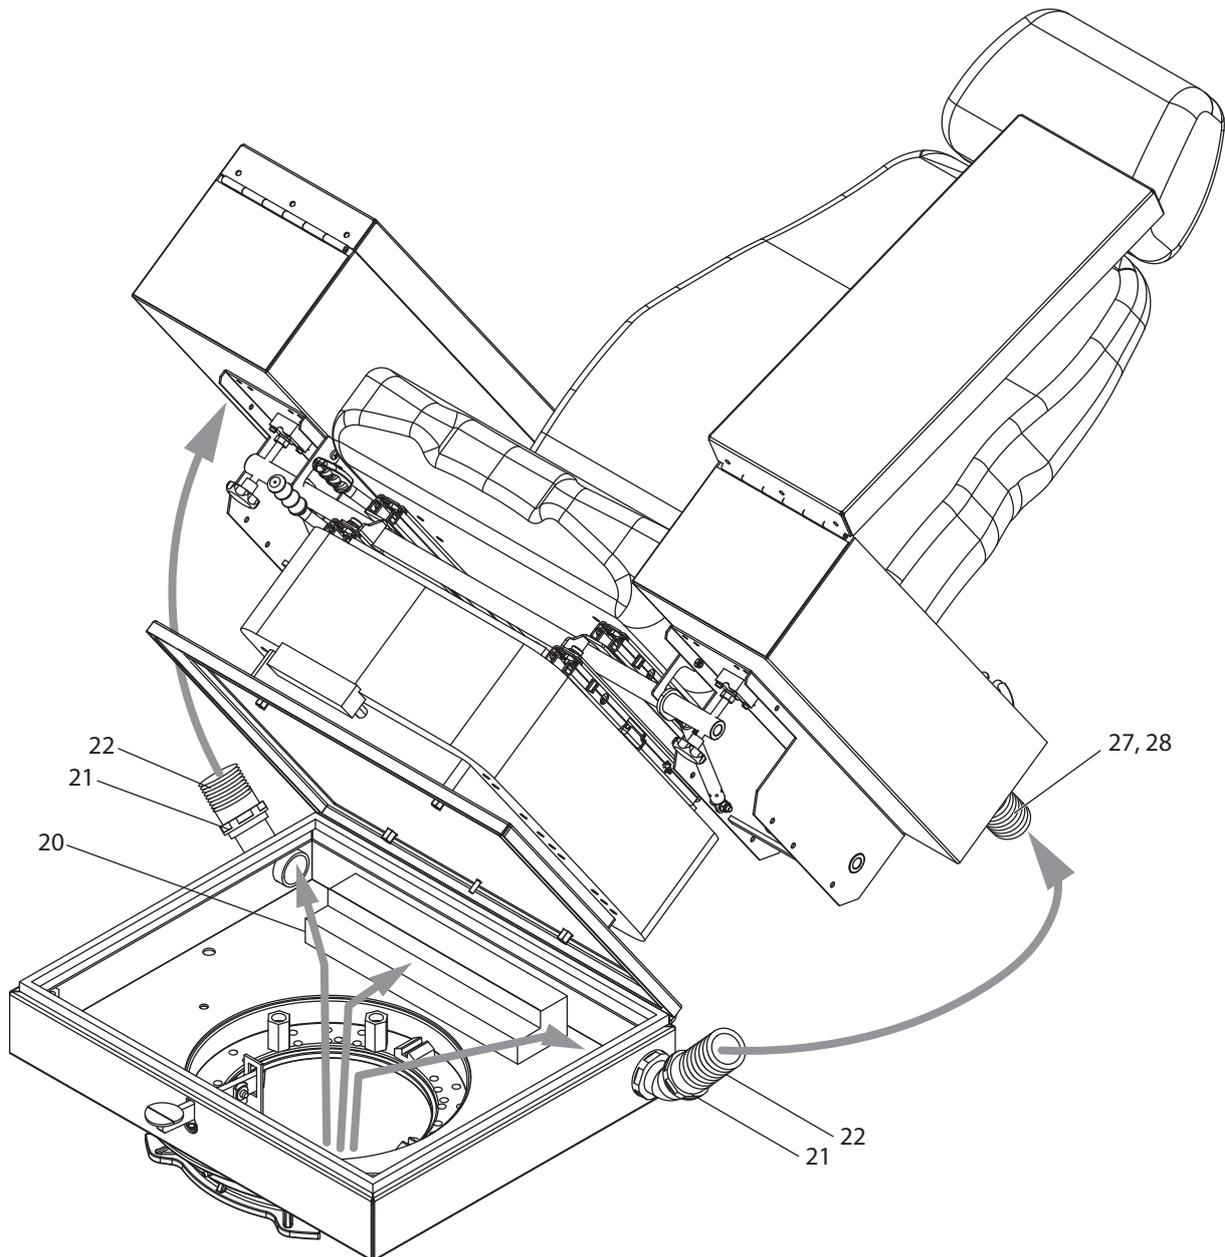

Figure 16. Cable entry
2. Undo the two securing screws (18) on the spacer (4).
3. Tip the control stand in the direction of the hinges (15), make sure that the control stand is secured against tipping back and is placed on a suitable surface.
4. Route the cables from below into the spacer (4) (see Figure 16 „Cable entry“, page 84).
5. Connect the corresponding cables to the terminal block (20) (see Figure 16 „Cable entry“, page 84) as per the related circuit diagrams (see chapter 12. „Reference documents“, page 124).
6. Undo the lock nut (21) on the cable opening (17) and remove the corrugated tube (22) from the cable opening (17) on the spacer, (see Figure 16 „Cable entry“, page 84).
7. Undo the lock nut (28) on the cable opening (27) on the consoles and remove the corrugated tube (22) from the cable opening (27) on the consoles, (see Figure 16 „Cable entry“, page 84).
8. Guide the corresponding cables through the cable opening (17).
9. Pull the cables through the corrugated tube (22) and tighten the lock nut (21) for the cable opening (17) on the spacer and the lock nut (28) for the cable opening (27) on the consoles.
10. Tip the control stand back in the direction of the hinges (15) and tighten the two locking screws (18) in the spacer (4).
4. Undo the lock nut (**21**) on the cable opening (**17**) and remove the corrugated tube (**22**) from the cable opening (**17**) on the spacer, (see Figure 16 „Cable entry“, page 84).
5. Undo the lock nut (28) on the cable opening (27) and remove the corrugated tube (22) from the cable opening (17) on the consoles, (see Figure 16 „Cable entry“, page 84).
6. Guide the corresponding cables through the cable opening (17).
7. Pull the cables through the corrugated tube (22) and tighten the lock nut (21) for the cable opening (17) on the spacer and the lock nut (28) for the cable opening (27) on the consoles.